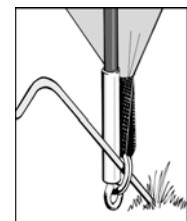

Figure 2.
- Peg the corners of the tent through the metal rings using pin-pegs. It is important to drive the peg into the ground at a 45 degree angle to obtain the best grip. **(See Figure 2).**